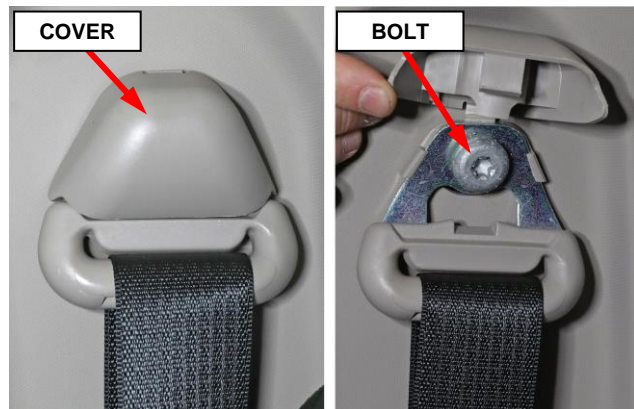

Figure 22 – Seat Belt Turning Loop
- On the C-pillar, lift the seat belt turning loop cover then remove the turning loop bolt (Figure 22).
48. Using a **NEW** bolt and reusing the spacer, install the turning loop then tighten the bolt to 40 N·m (30 ft. lbs.) (Figure 22).
49. Install the seat belt turning loop cover (Figure 22).